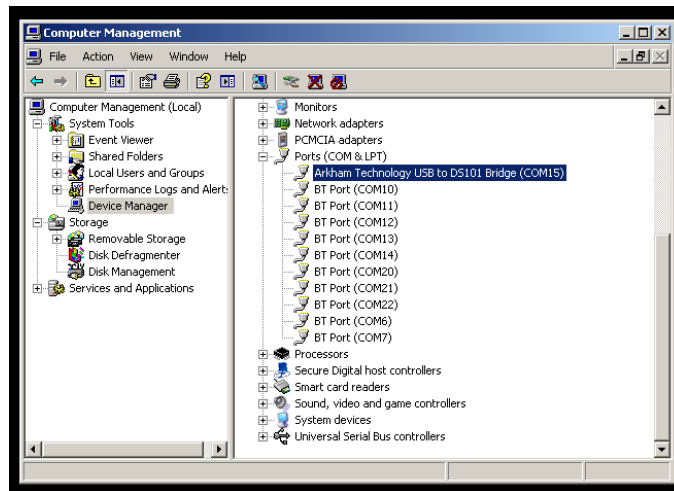

Figure 3-2: Device Manager
The installed device should appear as a branch-entry of the *Ports (COM & LPT)* tree in the *Computer Management* window's right frame as shown in Figure 3-2.
- b) As shown in Figure 3-2, right click on the entry and select *Properties*.